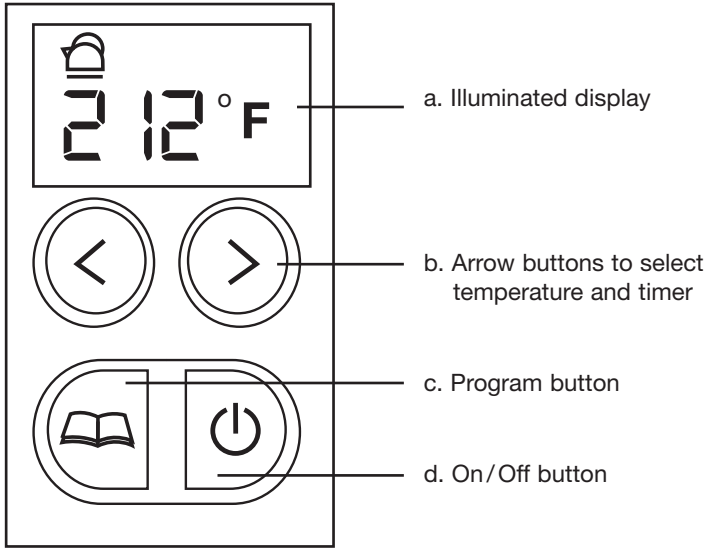

Fig. 2
- C LCD display with four operating buttons (see Fig. 2)